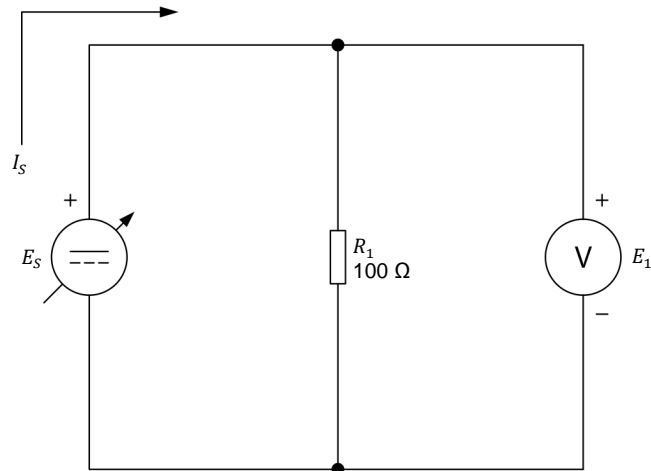

Figure 25. Measuring the power consumed by a resistor.
3. Set up the circuit shown in Figure 25. To obtain the resistance value ( $R_1$ ) of Figure 25, make the necessary connections and switch settings on the **Resistive Load** module.